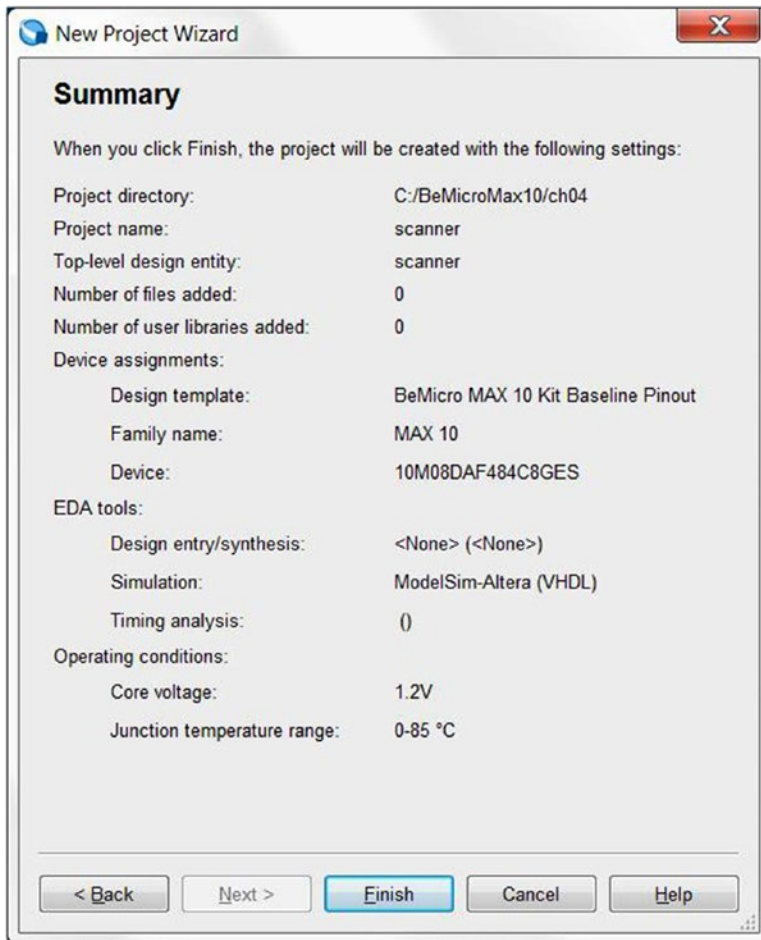

Figure 4-13. *New Project Wizard—Summary*
- 14. This is the last step to set up the BeMicro MAX 10 project. Figure 4-13 shows a summary of the project. Make sure your summary is the same as this one and then click **Finish**.